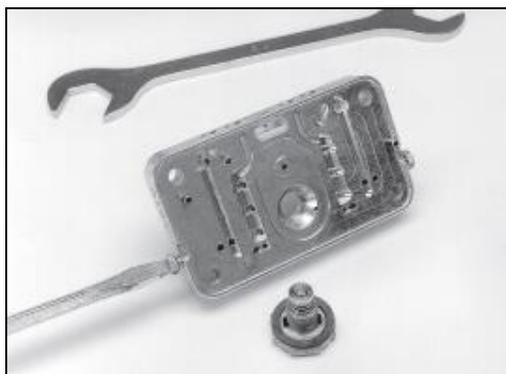

Figure 4
7. The power valve can be removed from the metering block with a 1-inch socket, open-end or box wrench (Fig. 4). However, when using either of the latter tools, care must be taken to avoid damaging the sealing beads on the block surface.
8. The idle mixture screws should also be removed from the sides of the metering block (Fig. 4). There is a small cork gasket surrounding each of the screws, and it should also be pulled out of the recess in the block. The Rebuild Kit comes with rubber o-rings to replace the cork gaskets for a more positive seal. Some HOLLEY® carbs contain a "reverse-idle" system and a tag is affixed to the block showing that the mixture is made leaner by rotating the screws counter-clockwise. This tag should be removed and reapplied after cleaning.